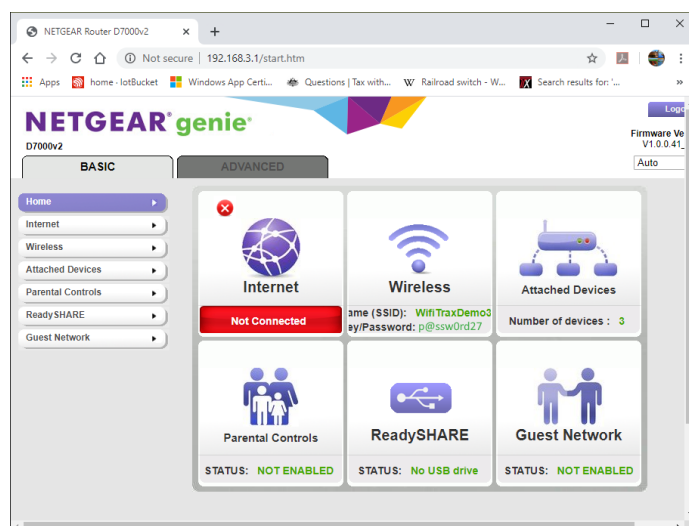

Figure 97 A typical router admin page
- d. Once you have given the credentials, you will see the Admin page. A typical one is shown in Figure 97. Find the “Attached Devices” option and click on it.